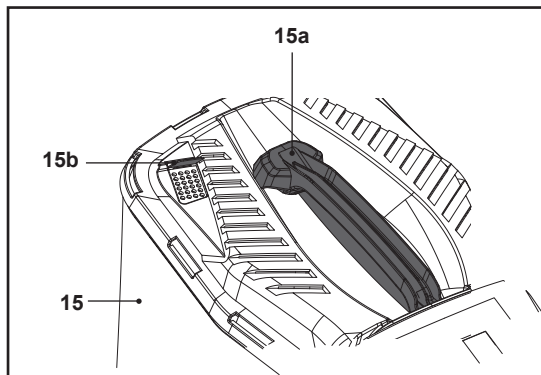

Fig. 11
1. When the hatch (15b) is opened the grass catcher (15) has sufficient volume left to collect grass (Fig. 11).